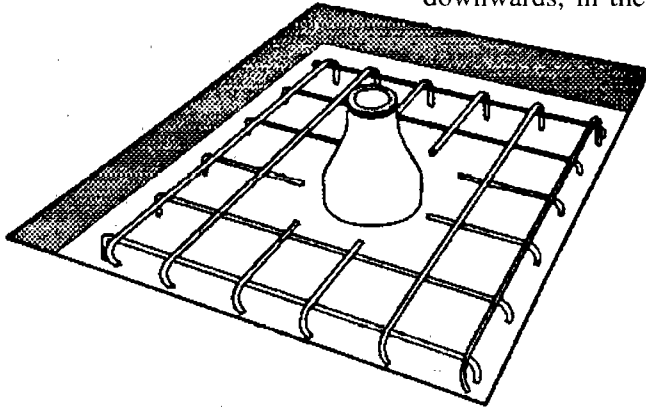

Figure 14. PVC reducer
- Roughen the top 50 millimetres of the outside of a 200 millimetre to 100 millimetre PVC reducer. Place it, wide end downwards, in the hole in the grid (see Figure 14).